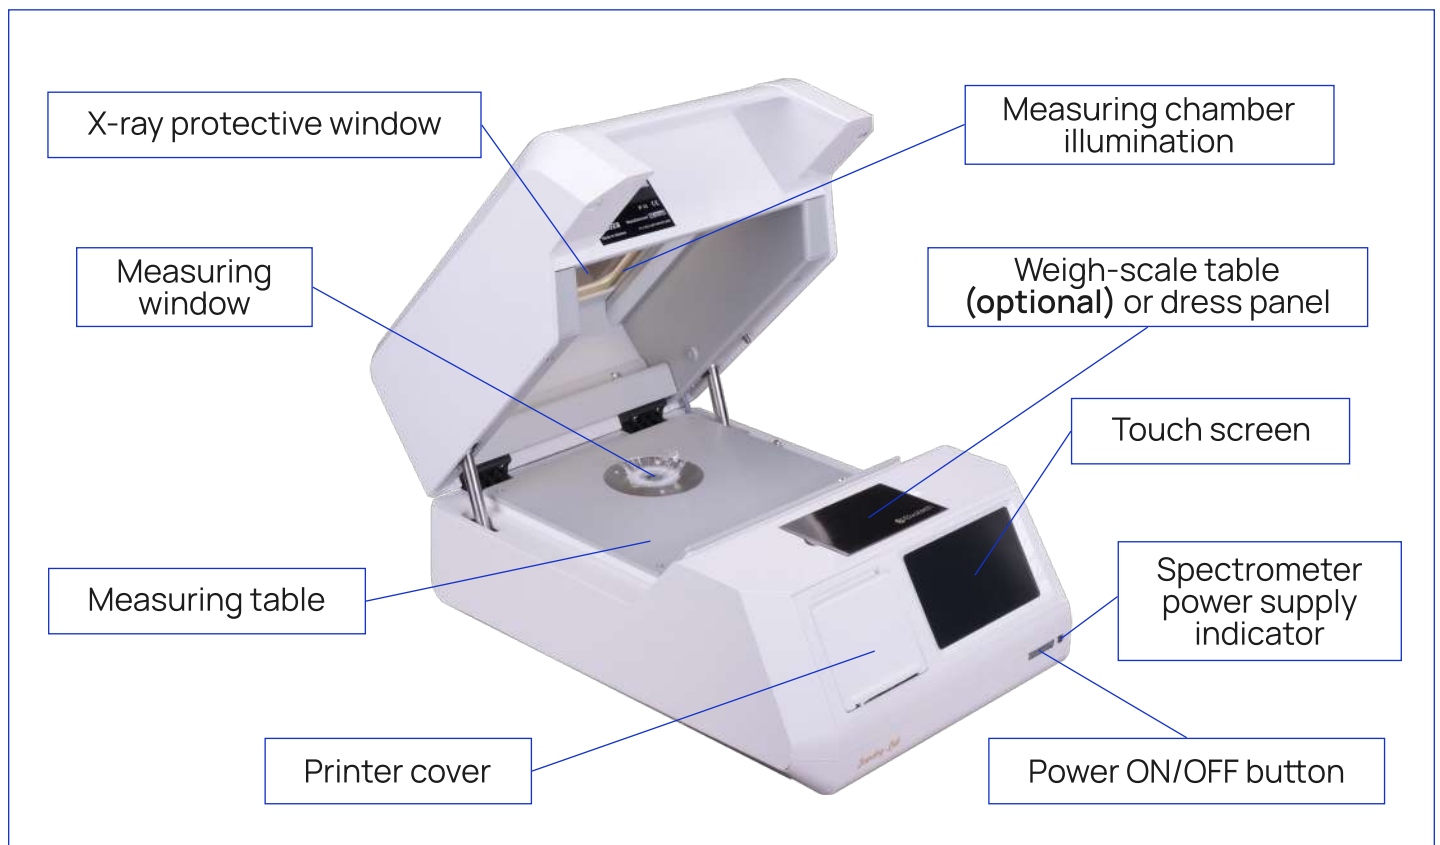

Fig.2. Right side view
Please note! Do not use spectrometer with defective lock or with the lock button (fig.2) being constantly pressed!
- with AC mains operation – measuring chamber light bias (fig.1) and X-ray indicator are on (fig.2).
- while running on battery – the red LED inside the X-ray measuring chamber is on (fig.2).
X-ray indicator inside the measuring chamber (fig.2).